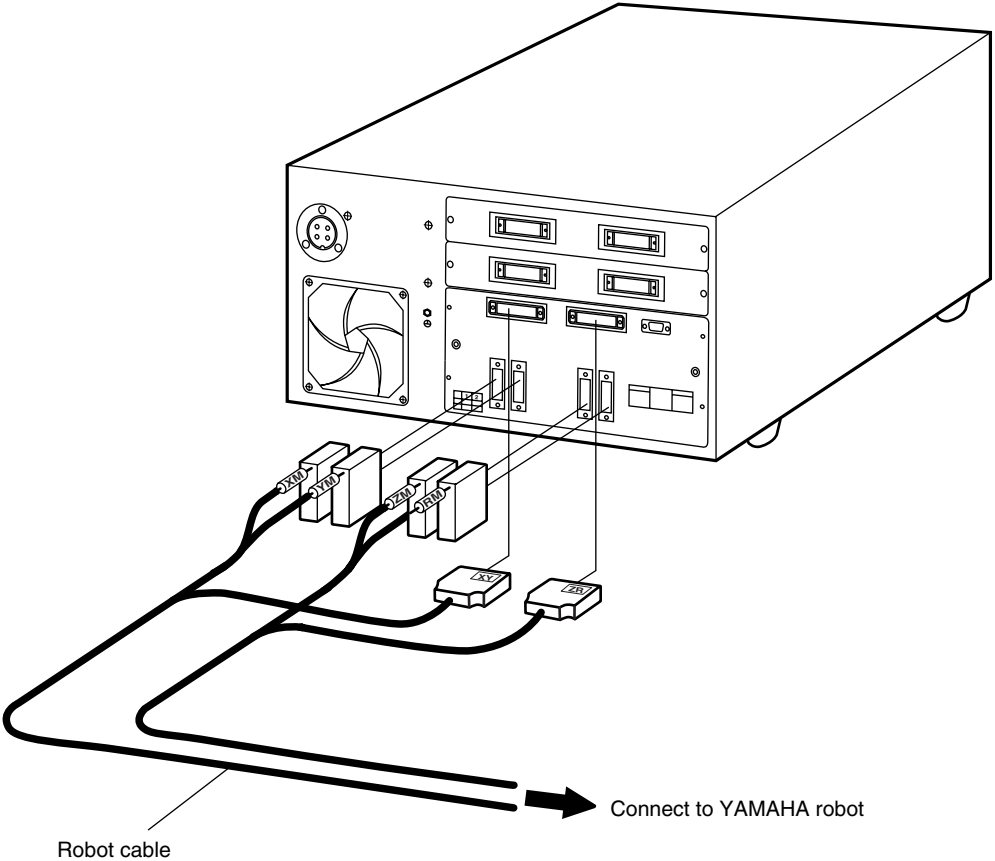
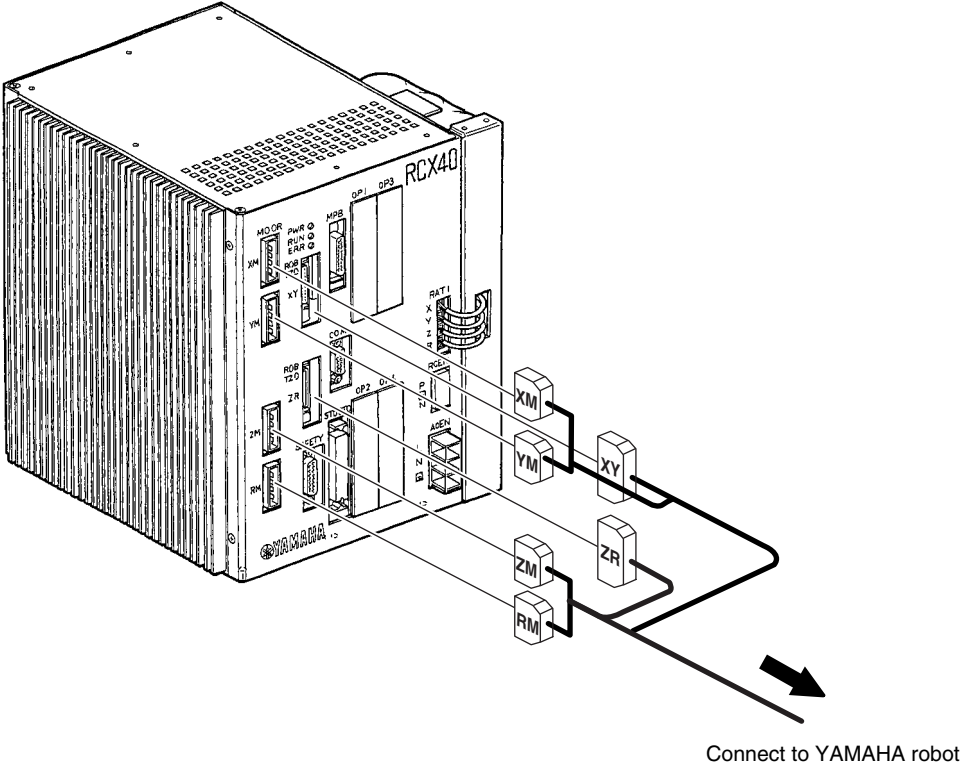

Fig. 3-4 Connection to QRCX controller
Fig. 3-5 Connection to RCX40 controller
- 2) While referring to Table 3-4 and Fig.3-4, Fig.3-5, securely insert the motor connector into the correct position on the controller until a click is heard.
- 3) While referring to Table 3-4 and Fig.3-4, Fig.3-5, insert the robot I/O cable into the correct position on the controller.